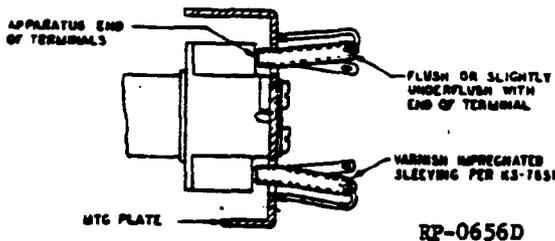

FIG. 4 SLEEVED TERMINALS - APPARATUS WITH SURFACE WIRING (PAR. 3.542)
3.52 When it is necessary to protect apparatus terminals from short circuits with adjacent terminals, the terminal and connections (whether soldered or solderless wrapped) shall be sleeved with varnish impregnated sleeving. The sleeving should be applied as shown in Figs. 4 and 5. In sleeving it is necessary to slip the sleeve over the wire prior to lead termination.
3.542 At Surface Wired Apparatus: Cut the sleeving to the length required to cover the terminal without extending beyond the end of the terminal. The sleeve when in position should be flush or slightly underflush with the end of the terminal as illustrated in Figure 4.
4.32 Protect apparatus terminals from short circuits per Figs. 4 or 5.	3.53